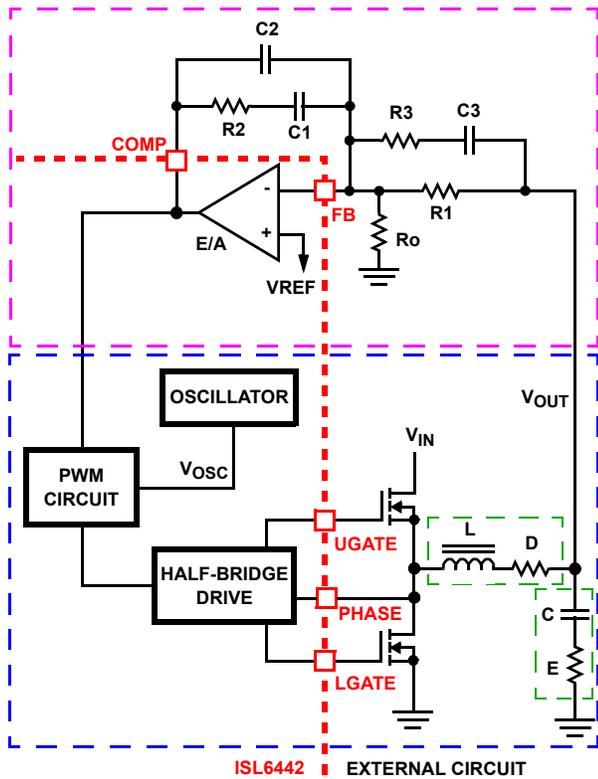

FIGURE 14. VOLTAGE-MODE BUCK CONVERTER COMPENSATION DESIGN
Figure 14 highlights the voltage-mode control loop for a synchronous-rectified buck converter, applicable to the ISL6442 circuit. The output voltage (V_{OUT}) is regulated to the reference voltage, V_{REF} . The error amplifier output (COMP pin voltage) is compared with the oscillator (OSC) modified sawtooth wave to provide a pulse-width modulated wave with an amplitude of V_{IN} at the PHASE node. The PWM wave is smoothed by the output filter (L and C). The output filter capacitor bank's equivalent series resistance is represented by the series resistor E.
The compensation network consists of the error amplifier (internal to the ISL6442) and the external R1-R3, C1-C3 components. The goal of the compensation network is to provide a closed loop transfer function with high 0dB crossing frequency (F_0 ; typically 0.1 to 0.3 of F_{SW}) and adequate phase margin (better than 45°). Phase margin is the difference between the closed loop phase at F_{0dB} and 180° . The equations that follow relate the compensation network's poles, zeros and gain to the components (R1, R2, R3, C1, C2, and C3) in Figure 14. Use the following guidelines for locating the poles and zeros of the compensation network:
1. Select a value for R1 (1kΩ to 5kΩ, typically). Calculate value for R2 for desired converter bandwidth (F_0). If setting the output voltage via an offset resistor connected to the FB pin, R_o in Figure 14, the design procedure can be followed as presented.